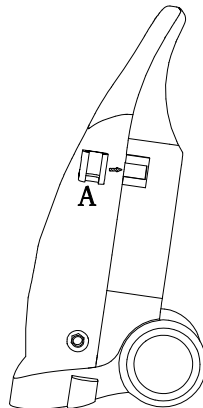

Fig. 2
9. Fit holder (A) as shown (press in) - fig 2.